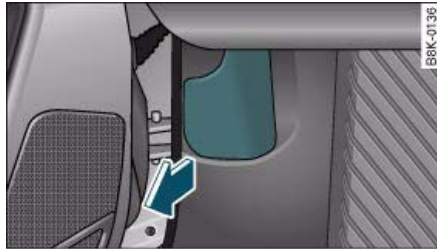

Fig. 210 Detail of footwell on driver's side: Release lever
- Pull the lever under the dashboard in the direction indicated (arrow) ⇒ fig. 210.